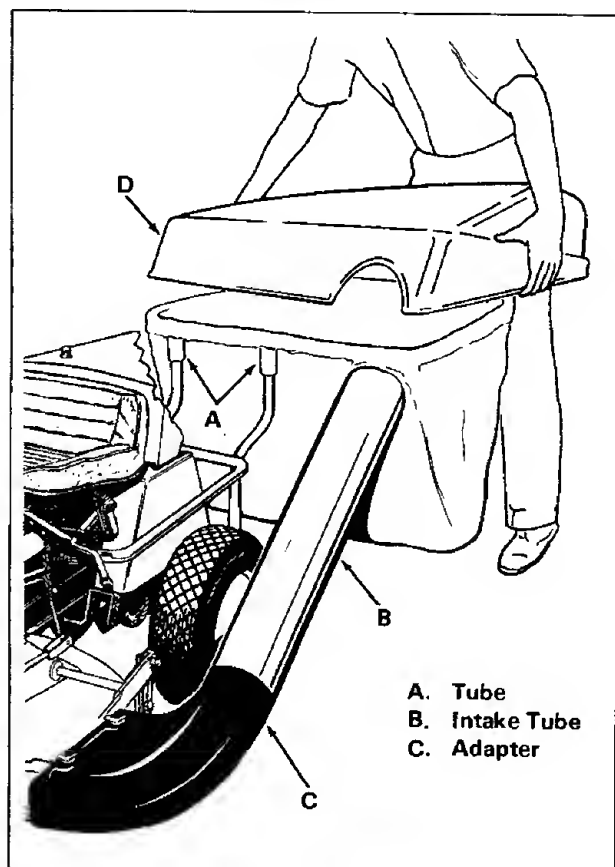

Figure 9
3. The previously assembled grass bag is now installed by slipping the two tubes (item A, figure 9) of the bag support onto the vertical supports just installed.
5. From the outside of the bag, slide one end of the previously assembled intake tube (item B, figure 9) up through its opening in the bag far enough to be installed on the adapter (item C). Push the tube onto the adapter fully to the ridge on the adapter (or as far as it will go).